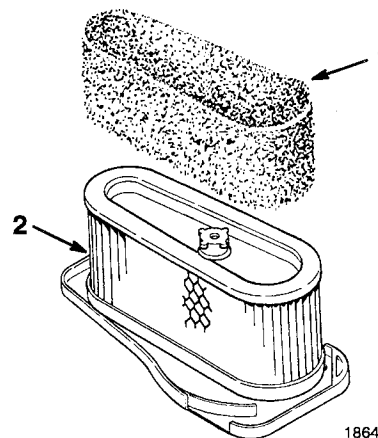

Figure 28
4. Carefully slide the foam element off the paper element (Fig. 28).
1. Carefully slide the foam element onto the paper air cleaner element (Fig. 28).